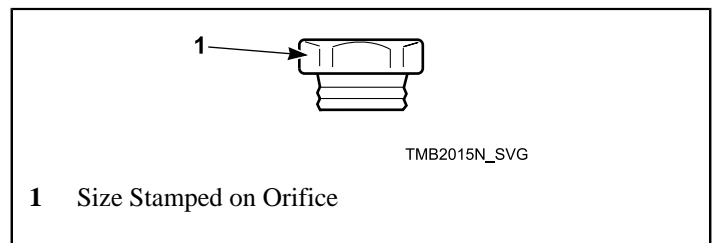

Figure 17 Burner Orifice
3. Install the new, correct burner orifice(s). Refer to *Figure 17 Burner Orifice* and *Table 1* . Torque each to 9 – 10 Nm.
4. Reinstall spud holder assembly to gas valve, making certain burner orifice(s) are in line with burner tube opening. Refer to *Figure 17 Burner Orifice*.